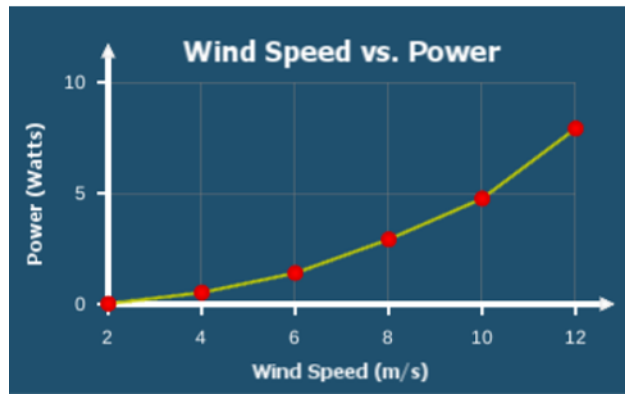

Figure 10: Wind speed experiment graph
4. Repeat steps 2-3 for the other wind speeds until you have tested all of them. Make sure the **Wind Speed Experiment** item in the side menu is set to visible. You should have a graph similar to the one in Figure 10.